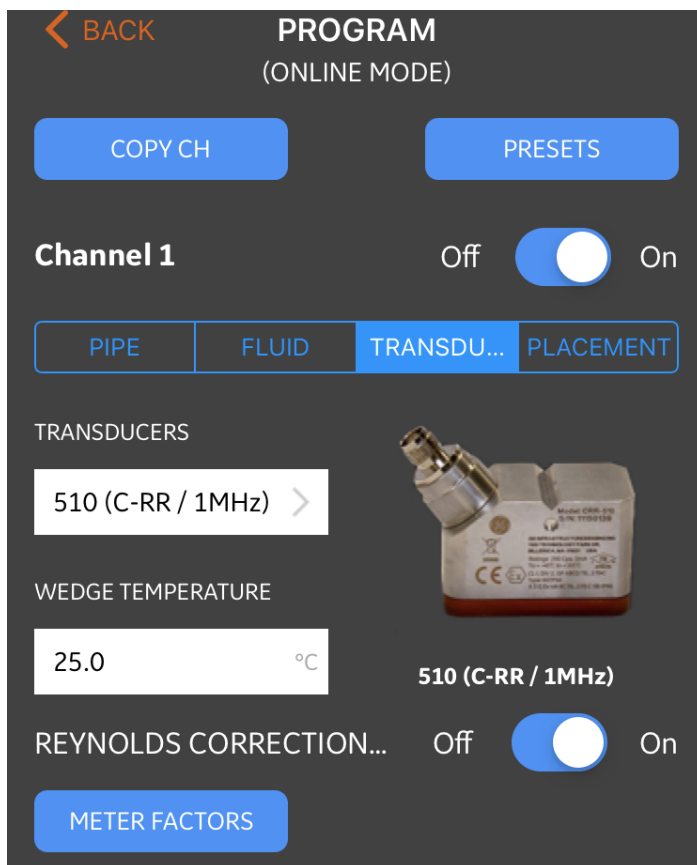
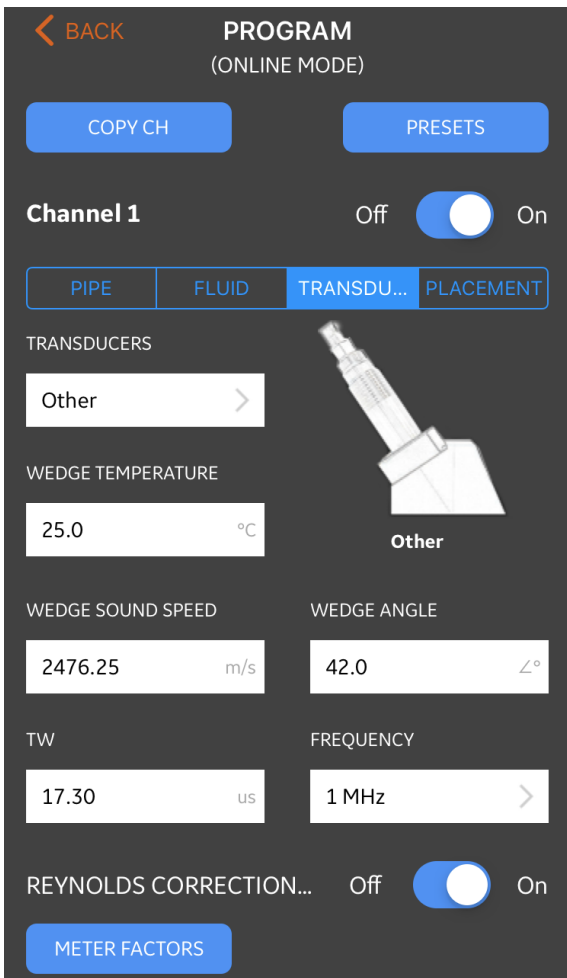

Figure 87: The TRANSDUCERS menu
Figure 88: transducer menu parameters
An example of this menu is shown in *Figure 87* below. See the following sub-sections for the options available in programming the transducers.
To program your transducer parameters, refer to *Figure 87 on page 32* and complete the following steps:
- If you select standard transducer from the drop down, you will need to enter only the *wedge temperature* (see Figure 87). But if you select *other* as your transducer model, few additional parameters will appear on the screen (see Figure 88 on page 33 and you must edit this data with the correct specific information.
The *Reynolds correction factor* can be set to either *on* or *off* (see Figure 87 on page 32. This factor corrects the fluid velocity measured across a diametrical path so that it more accurately represents the average fluid velocity across the entire cross-sectional area of the pipe. The *Reynolds correction factor* should be turned *on* for all clamp-on measurements.
To program the *meter factor*, refer to Figure 87 on page 32 and complete the following steps: